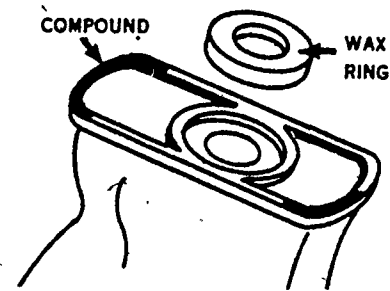

Figure 6
3. Turn water closet bottom side up, see figure 6,, and apply \_\_\_\_\_ to the outer portion of the bowl rim.